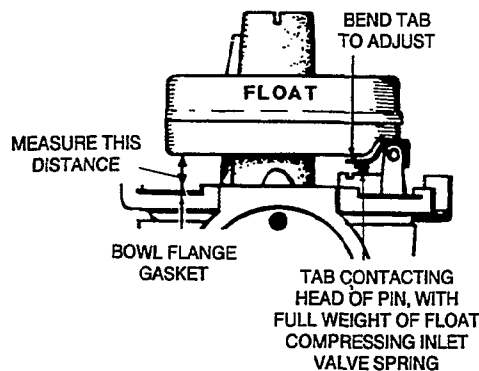

FIGURE 6-22. FLOAT LEVEL
4. Invert the float and needle valve assembly and check the float level by measuring from the carburetor housing to the far side (bottom) of the float; see Figure 6-22. The full weight of the float should be resting on the needle valve and spring. If the setting is incorrect, remove the float and bend the tab to adjust. Bend the float only at the point indicated.